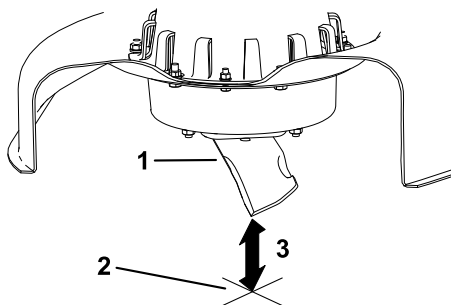

Figure 30
3. Measure from the tip of the blade to the flat surface (Figure 30).